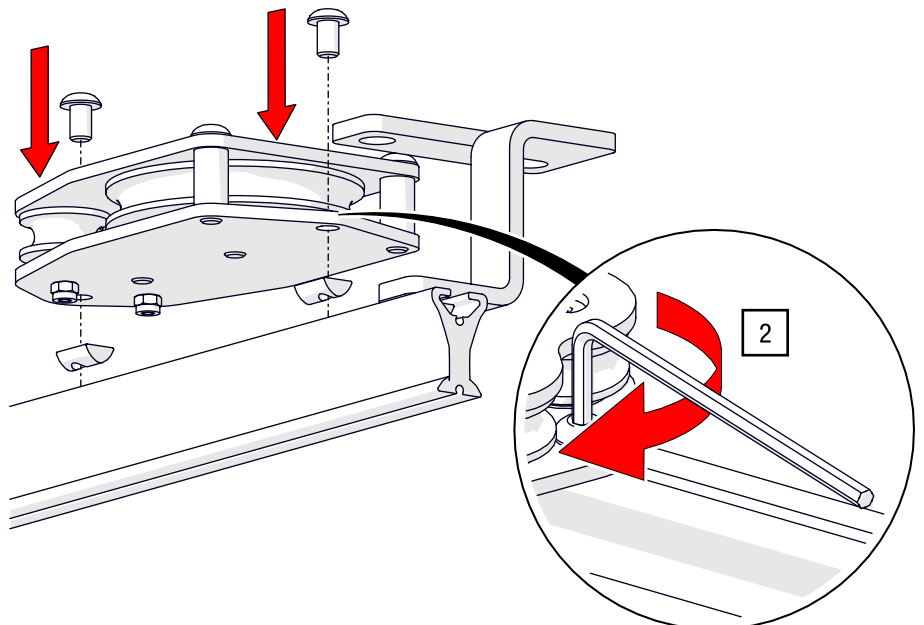

Fig. 71: Top cord operation – Mount return pulley
2. Position the pre-assembled return pulley at one track end and tighten the screws with the slot nuts positioned in the track profile using a hex key AF 3 (see Fig. 71).